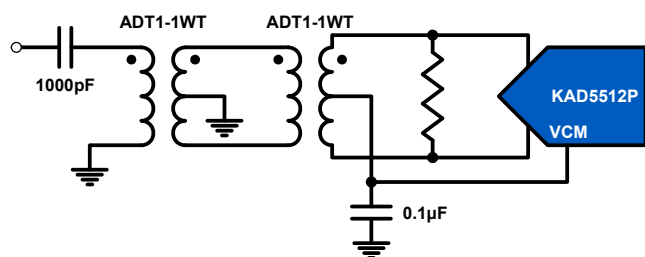

FIGURE 28. TRANSFORMER INPUT FOR GENERAL PURPOSE APPLICATIONS
Best performance is obtained when the analog inputs are driven differentially. The common-mode output voltage, VCM, should be used to properly bias the inputs as shown in Figures 28 through 30. An RF transformer will give the best noise and distortion performance for wideband and/or high intermediate frequency (IF) inputs. Two different transformer input schemes are shown in Figures 28 and 29.